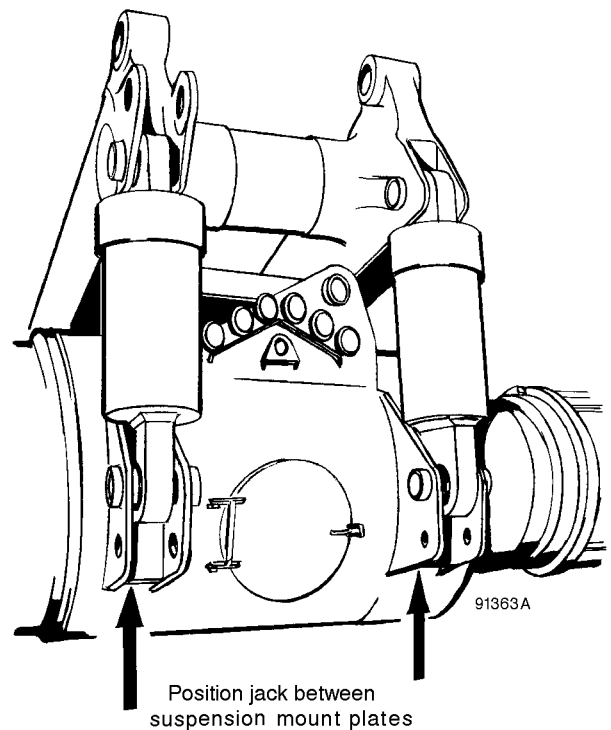

FIGURE 2-3. TIRE LIFTING SLING (BODY REMOVED)
1. Park the truck on a hard, level surface and chock the front wheels. Position a jack in the recess of the rear suspension mount casting, as shown in Figure 2-3.
4. After all nitrogen pressure has been relieved, remove charging valve assembly (Figure 2-3) and discard O-ring (9).